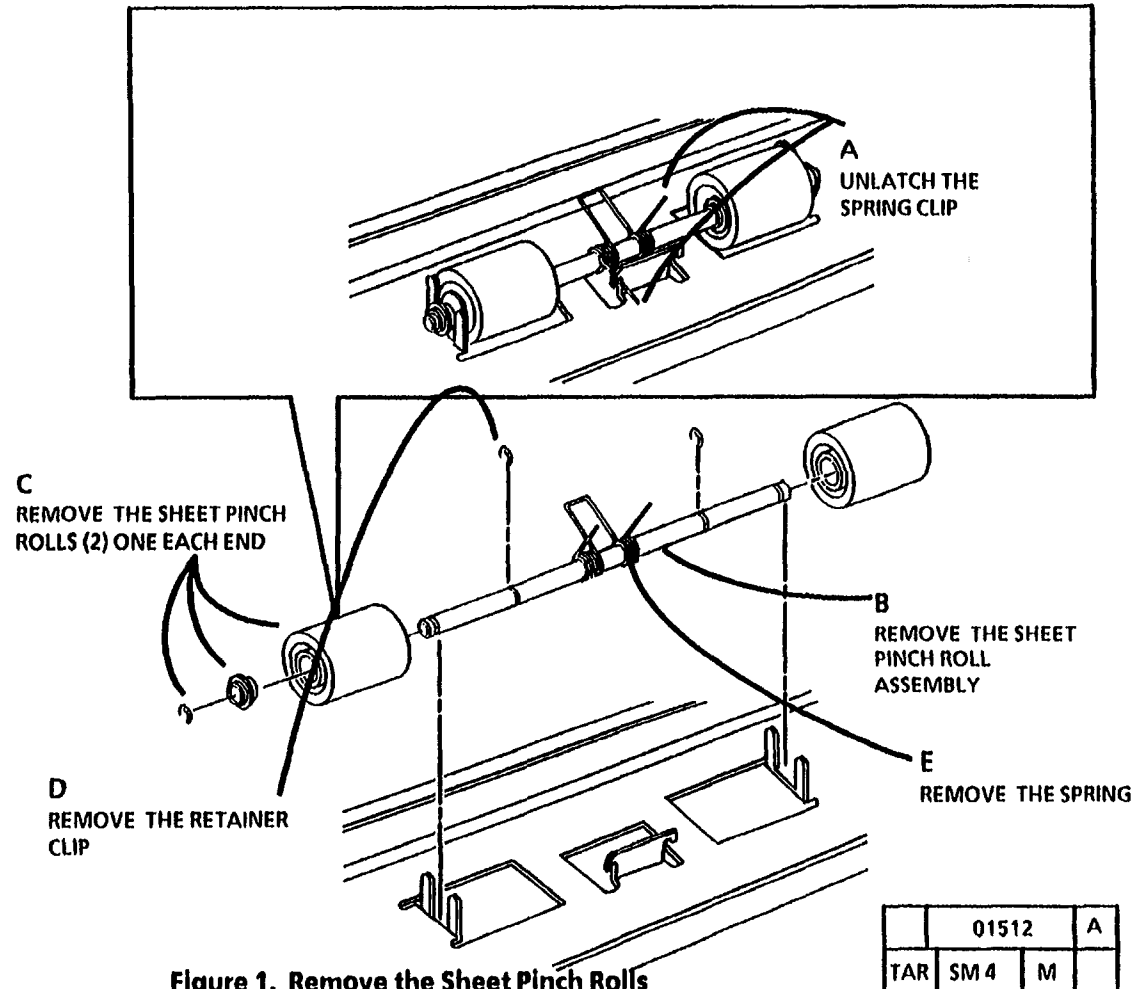

Figure 1. Remove the Sheet Pinch Rolls
6. (Figure 1): Remove the Sheet Pinch Rolls.